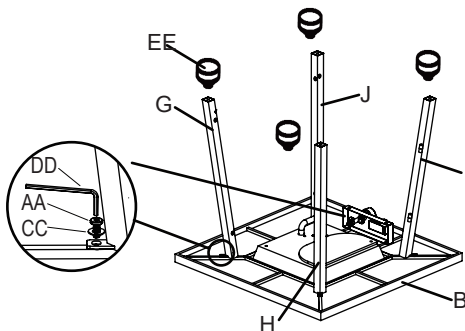

Figure 2
2. Attach back-left leg (G) and back-right leg (H) and front-left leg (J) and front-right leg (I) to table top assembly (B) with bolts (AA) and washer (CC) by using hex screw driver (DD), (see Figure 2).